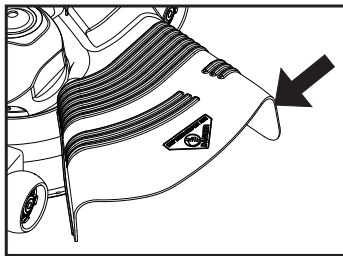

Fig. 12
**CAUTION: Do not operate the mower without either the entire grass catcher, on mowers so equipped, or the deflector chute in place (See Fig. 12).**